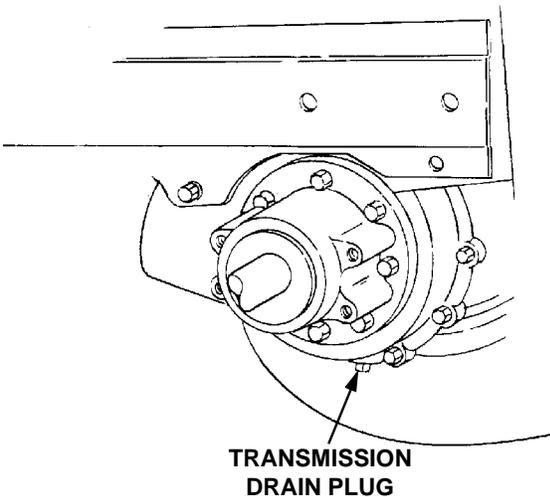

Figure 21
- Clean the area around the transmission drain plug to prevent debris from entering the transmission case. Remove the drain plug and allow the transmission oil to drain into a clean container having a capacity of more than 6 quarts. Reinstall the drain plug (Refer to Figure 21).